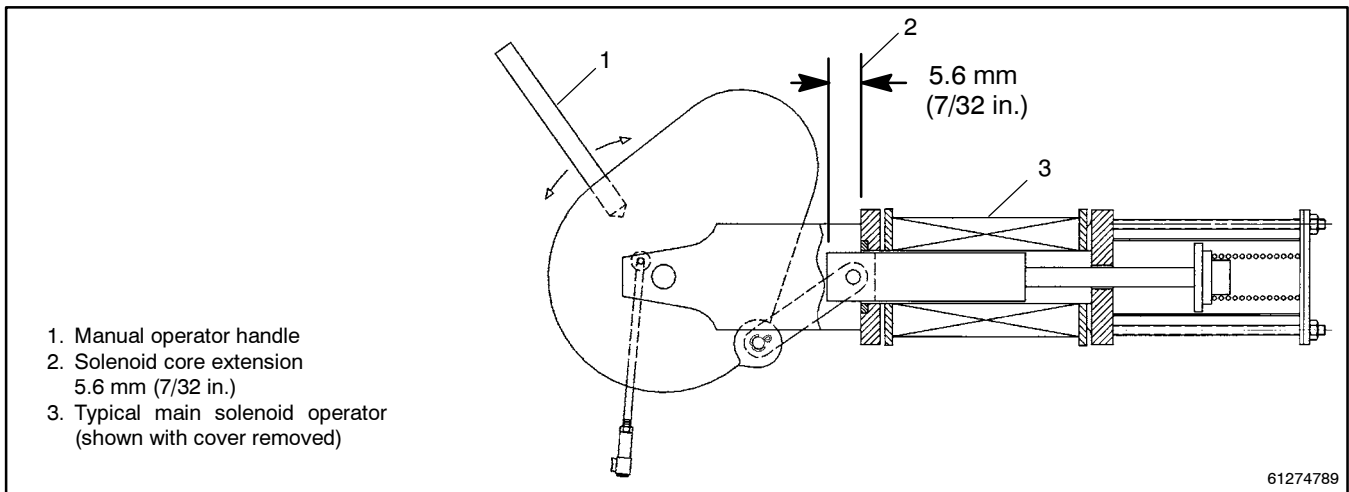

Figure 12-5 Establishing Solenoid Stroke Position for Control Contact Actuation.
6. If adjustment of contacts 71-72 and 9-8 is necessary, proceed as follows. Refer to Figure 12-5 and Figure 12-6.
- b. Starting from the closed-on-normal position, use the manual operator handle to rotate the weight until the core has moved up to the indicated dimensions. See Figure 12-5.
7. Rotate the manual handle so that the weight is over center on the opposite side (*EMERGENCY*). Then rotate the weight to the same core position in Figure 12-5 except coming from the emergency side. Perform the adjustment described in step 6 on the two opposite control contacts, 69-70 and 7-6.